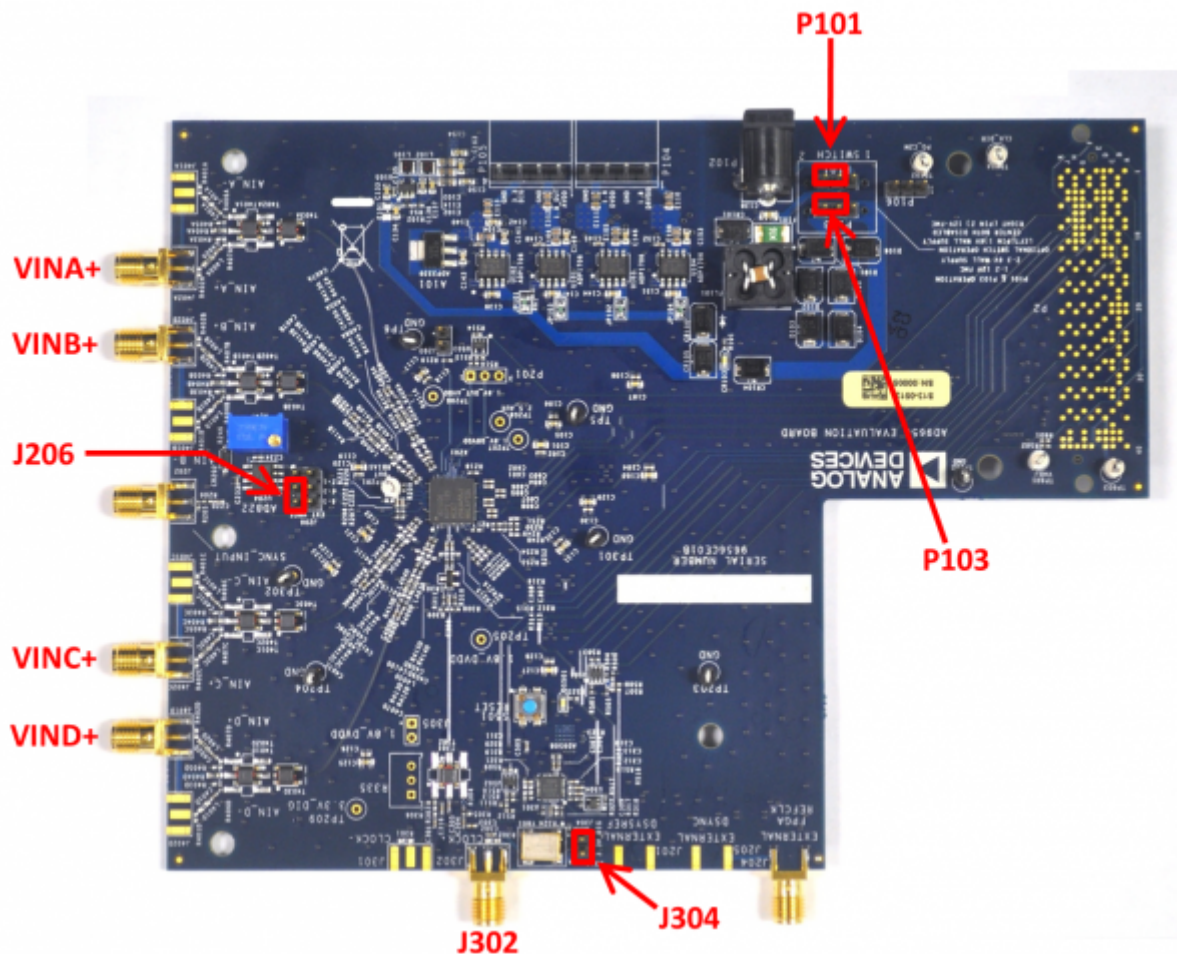

Figure 2. Default Jumper Connections for *AD9656EBZ* Board
2. On the ADC evaluation board, confirm that the jumpers are installed as shown in Figure 2.
Set the jumper settings/link options on the evaluation board for the required operating modes before powering on the board. The functions of the jumpers are described in Table 1. Figure 2 shows the default jumper settings.
J206	This jumper selects between internal V_{REF} and external V_{REF}. To choose the ADC's internal reference, connect Pin 3 (DUT_SENSE) to Pin 5 (GND) as shown in Figure 2. The default value of the internal reference is 1 V. SPI Register 0x18 Bits[7:6] can be used to program the internal reference voltage to values from 1 V to 1.4 V, in 0.1 V increments. Register control is accomplished with SPIController software, which is discussed below in the Setting up the SPI Controller Software section. To use the on-board AD822 buffered reference, connect Pin 2 (DUT_SENSE) to Pin 1 (AVDD), and connect Pin 4 (DUT_VREF) to Pin 6 (EXT_REF). Adjust external VREF to the desired value (from 1.0 V to 1.4 V) using potentiometer R247. To apply a reference voltage from an external off-board source, connect Pin 2 (DUT_SENSE) to Pin 1 (AVDD) and apply the reference voltage to Pin 4 (DUT_VREF). The AD9656 reference voltage is specified to be from 1.0 V to 1.4 V.